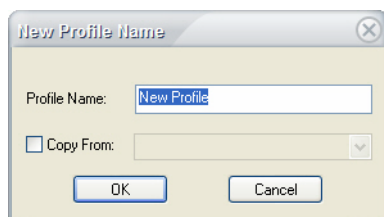

Figure 12-5: New Profile Name screen
- 2) Click  (New Profile). The New Profile Name screen appears. See Figure 12-5.